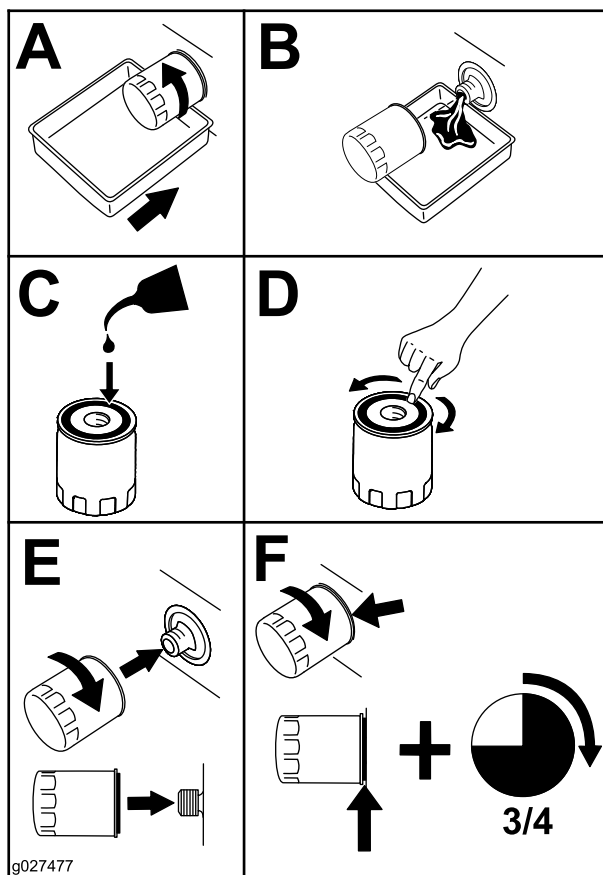

Figure 36
- Change the engine-oil filter (Figure 36).